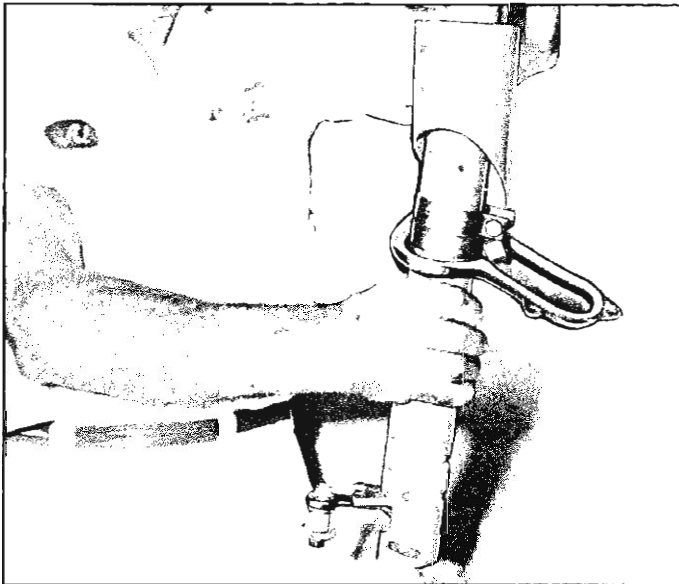

Fig. 25—Mast Jacket Clamps and Boot Installed
1. Install rubber dash boot, as shown in Figure 25, and mast jacket mounting clamps.
1. Install rubber dash boot, as shown in Figure 25, and mounting clamps (2).